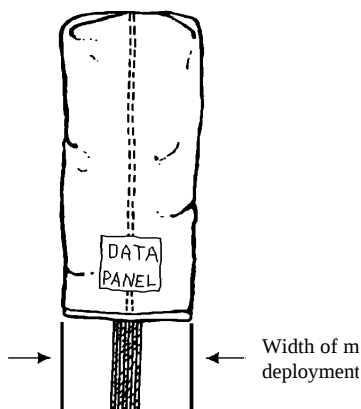

Figure 10
Step 11.) Kneel on the trailing edge of the center cell of the canopy and center the middle seam of the center cell in the middle of the canopy bundle. "Cocoon" fold the bundle by spreading the center cell of the canopy to the approximate width of the main deployment bag and tuck the outer edges of the material under the bundle. (See Figure 10.) **(If you have a diaper deployment system go to Step 13.)**